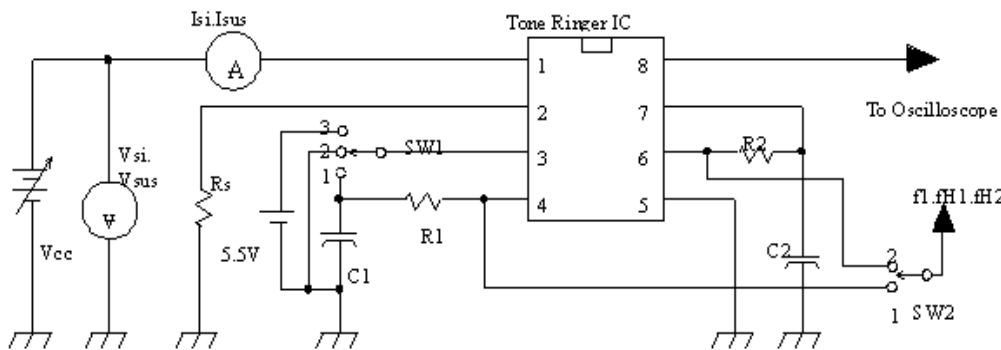

Figure 3. Test Circuit (2)
- Ringin start voltage is the value of AC supply voltage required to start the tone ringer ringin in FIG.3
The supply current drawn prior to triggering varies inversely with RSL, decreasing for increasing value of resistance. Thus, increasing the value of RSL will decrease the amount of AC ringing current required to trigger the device. As such, longer subscriber loops are possible since less voltage is dropped per unit length of loop wire due to the lower current level. RSL can also be used to compensate for smaller AC couplin capacitors (C5 on Fig 3) (higher impedance) to the line which can be used to alter the ringer equivalence number of a tone ringer circuit.